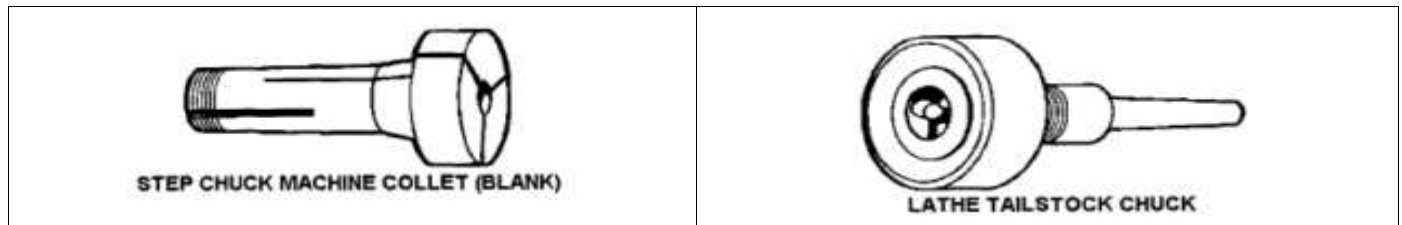

Figure 7-22. Step chuck machine collet and tailstock chuck.
**The Step Chuck:** Is a variation of the collet chuck, and it is intended for holding small round workpieces or discs for special machining jobs. Step chucks are blank when new, and then are machined in the lathe for an exact fit for the discs to be turned. The step chuck machine collet, which is split into three sections like the spring machine collet, is threaded to the drawbar of the collet attachment. (Figure 7-22).
**The Lathe Tailstock Chuck:** is a device designed to support the ends of workpieces in the tailstock when a lathe center cannot be used conveniently. The chuck has a taper arbor that fits into the lathe tailstock spindle. The three bronze self-centering jaws of the chuck will accurately close upon workpieces between 1/4 and 1 inch in diameter. The bronze jaws provide a good bearing surface for the workpiece. The jaws are adjusted to the diameter of the workpiece and then locked in place. (Figure 7-22).